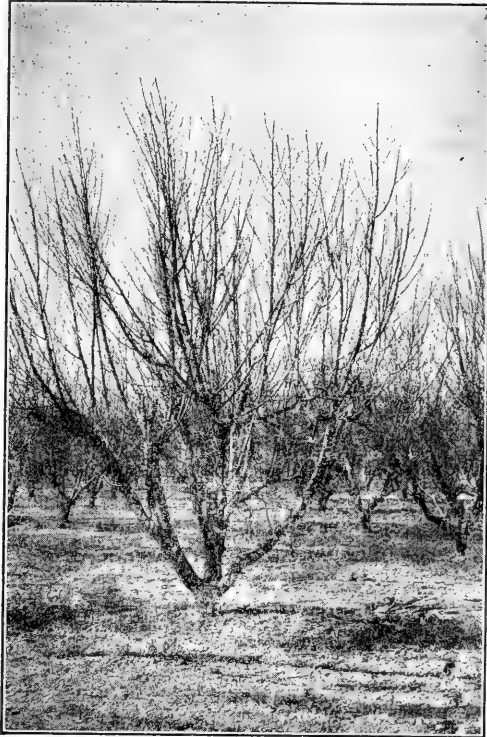

Fig. 110, Shows dehorning large limbs. (Paddock and Whipple.)
- a. Fig. 110 shows how to dehorn old trees.